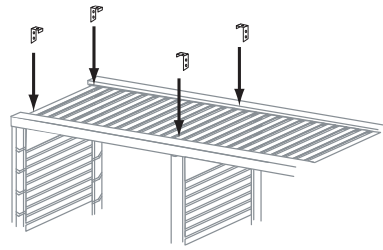

FIG. 3.7
8. Place Vertical Clips onto Top Shelf slats at Tower location (Fig. 3.7)